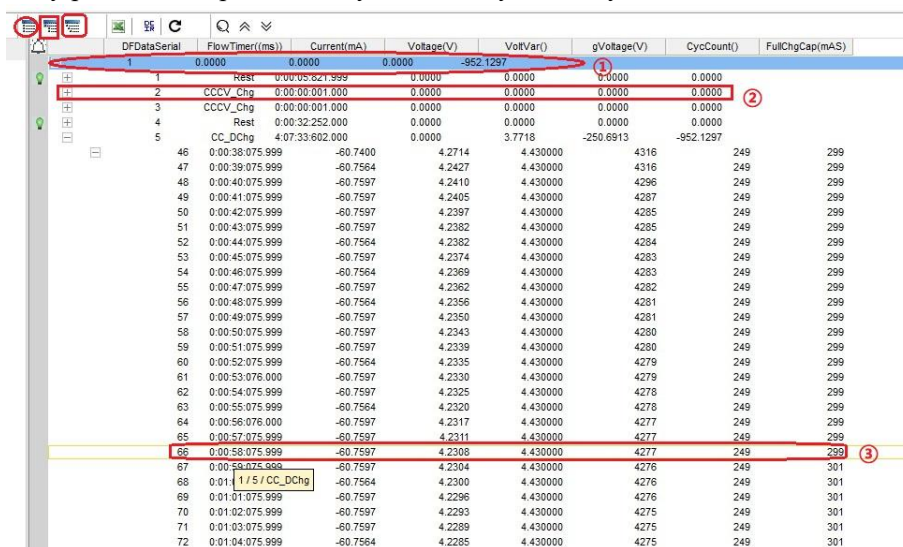

Figure 6-19 Data display
Test data, step layer test data, and record layer test data, as shown in the figure below (Figure 6-19). Click the cycle layer (1), step layer (2), record layer (3) on the toolbar, or right-click the test data and choose "Collapse/Expand" to achieve the related data collapse/expand. By viewing different battery performance parameters, you can analyze battery data.